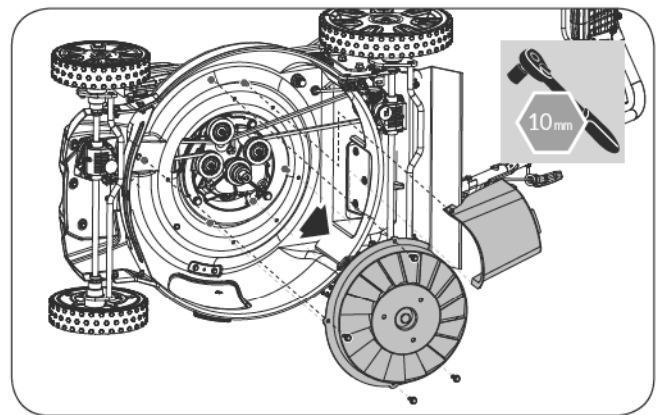

Figure 29
2. Remove the engine pulley cover and belt cover. (See *Figure 29*)